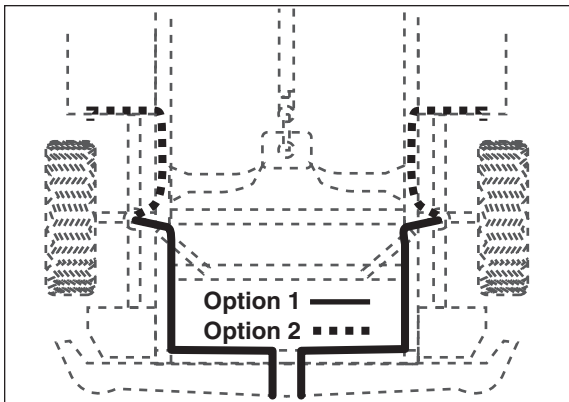

Figure 13
6. Route the air line along the frame to the air fitting on the air spring (Figure 13). Keep at least 6" of clearance between the air line and heat sources, such as the exhaust pipes, muffler, or catalytic converter. Avoid sharp bends and edges. Use the plastic tie straps (G) to secure the air line to fixed, non-moving points along the chassis. Be sure that the tie straps are tight, but do not pinch the air line. Leave at least 2" of slack to allow for any movement that might pull on the air line.